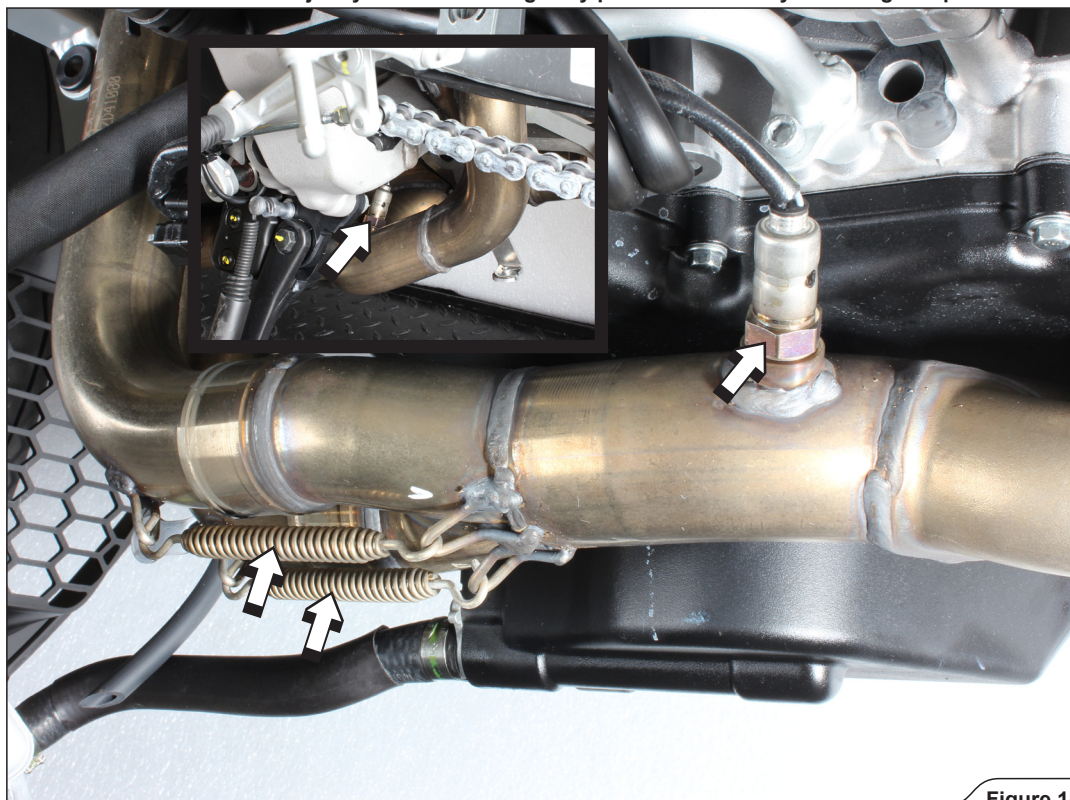

Figure 14
9. Unscrew both lambda sensors, unhook the marked springs and carefully remove the collector off the motorcycle (Figure 14).